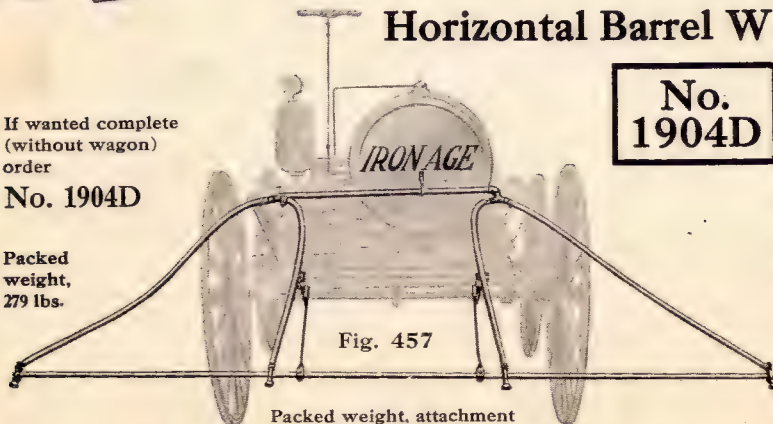

Fig. 457
No. 1904D includes the complete barrel outfit with double-acting pump, pressure gauge and four-row attachment, with "Iron Age" nozzles. The latter is sold as an attachment only when ordered as *Fig. 457*.
- No. 1904D (No. 190D with Fig. 457) page 16
- Fig. 457—Four-row wagon attachment, (page 16)